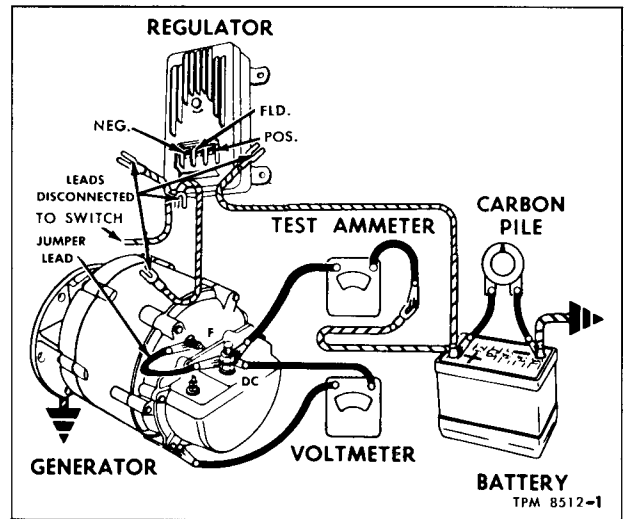

Figure 4—Checking Generator Output
Generator Output Check (Fig. 4)
3. Connect a voltmeter and ammeter in circuit as shown in figure 4.